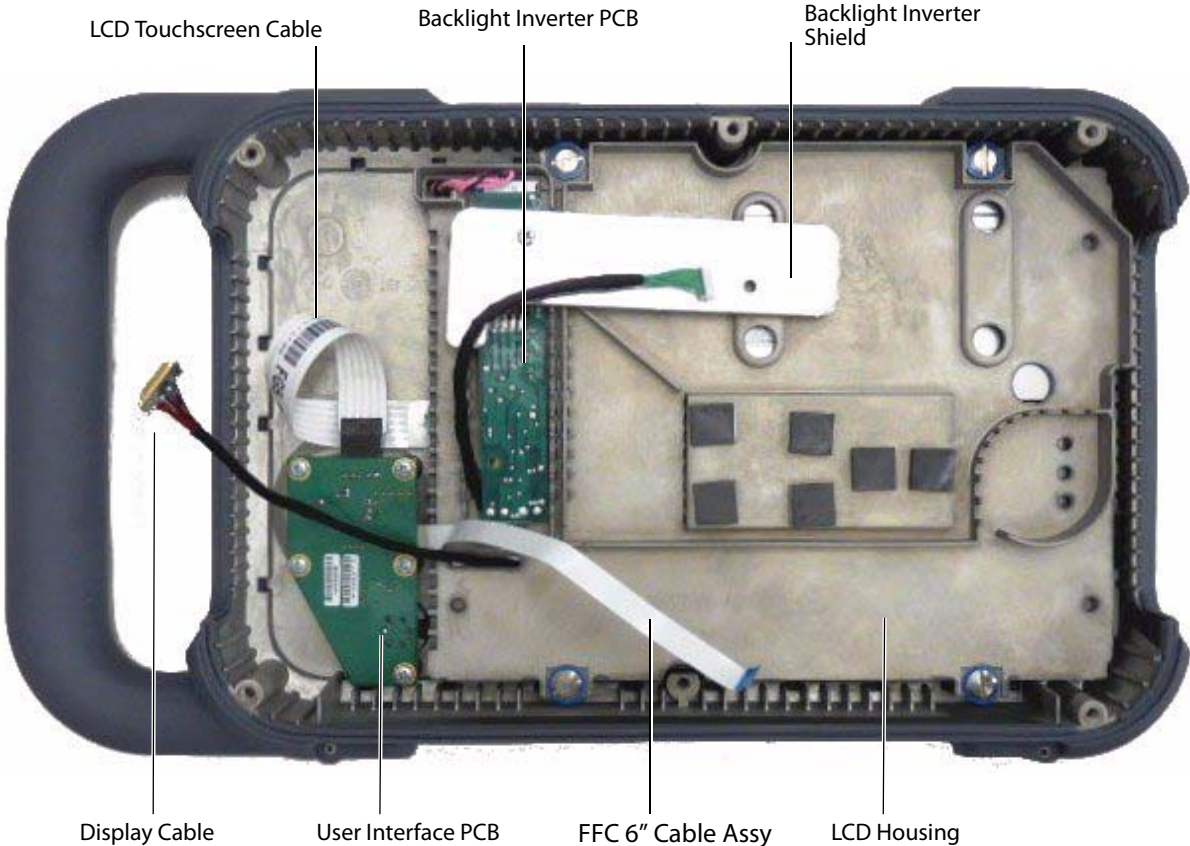

Figure 4.7 Other Major System Components
- 4 Reconnect the LCD Touchscreen ribbon cable ensuring the cable is looped as shown in Figure 4.7.